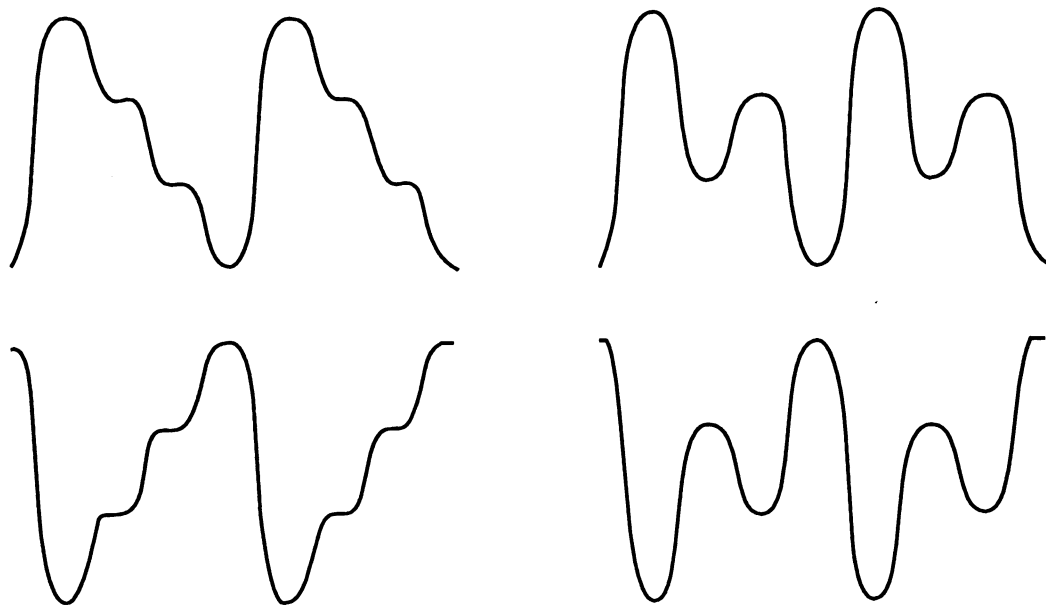

Figure 22. Four-Level Possible Patterns - Point C
Step 4. Compare and match the eye pattern displayed on the oscilloscope to one of the four patterns in Figure 22. If you are using a Model TDS 420, set up the scope as follows to see the eye pattern:
Step 6. Compare and match the eye pattern displayed on the oscilloscope to one of the four patterns in Figure 22. If you are using a Model TDS 420, set up the scope as follows to see the eye pattern: